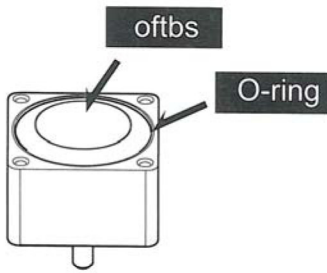

Figure 13.
1. Remove the seal cap and clean the grease on the end of the surface. (Figure 13)